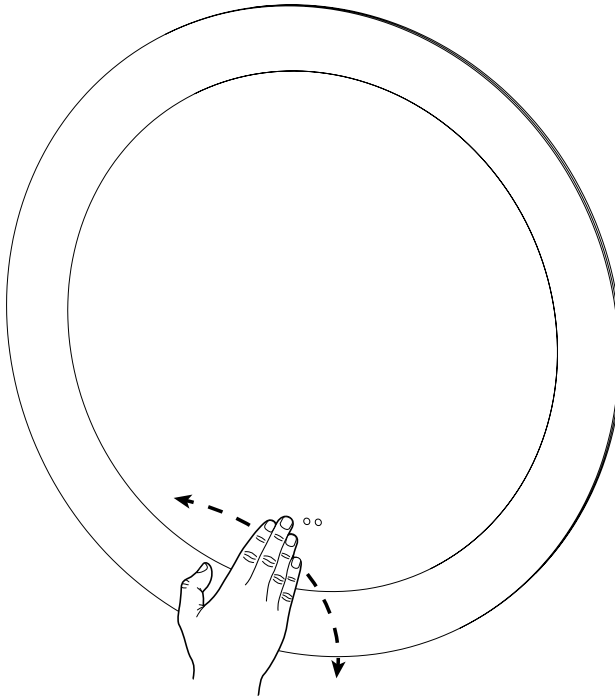

Fig 3. - Operation
1. Wave hand past the sensor switch located on the mirror face, *see Fig. 3.*